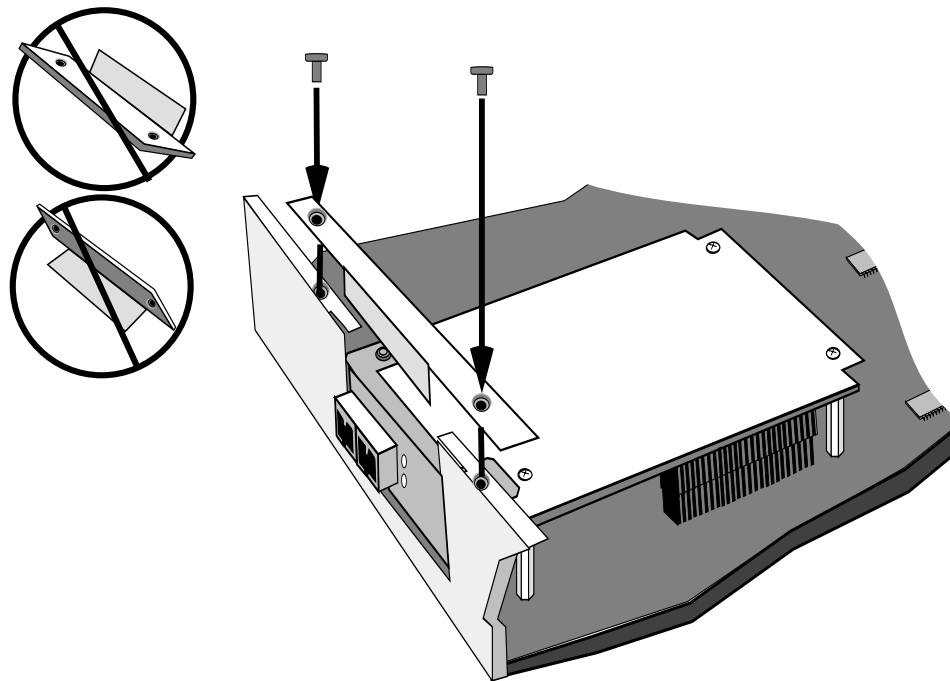

Figure 2-7. Attaching the ATM-Port Retaining Plate to the 9A426-02 Module
3. Place the ATM-Port Retaining Plate on the module (align the retaining plate's securing holes with the module's securing holes). Make sure the Retaining Plate's faceplate (its smaller side) is flush with the module's faceplate (see Figure 2-7).